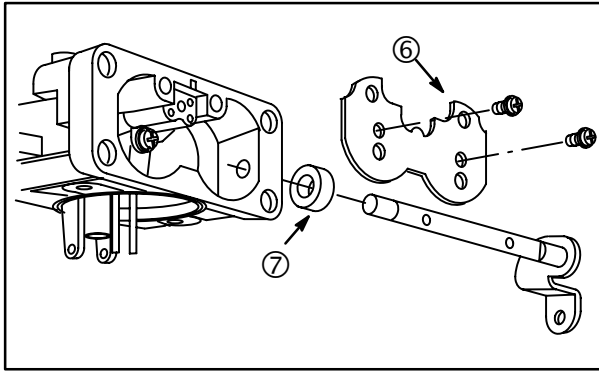

**Fig. 125**
3. Install nozzle body (4) with new gasket (5), **Fig. 125**. Tighten screw securely.